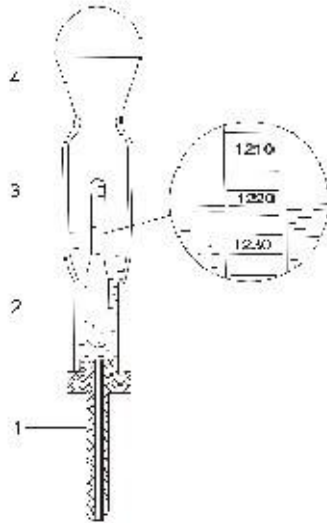

Fig. 12-15 Measuring the Density of Battery Electrolyte
(2) Check the level of electrolyte The level of electrolyte shall be 10mm to 15mm above any polar plate. If the level is too low, refill the distilled water other than electrolyte in time, so as to avoid overhigh density of electrolyte. Under the normal operating conditions, the reduction of its level is caused by natural evaporation and electrolyzation of water during the charging. If the insufficiency of electrolyte is caused by its dumping or leakage, the electrolyte with the equivalent density can be added in.
(3) Check the discharge of battery Check the discharge of battery by measuring the electrolyte density or voltage drop of single-cell battery (Fig.12-15). Commonly, its density reduced by 0.01g/cm^3 is equal to 6% discharge of battery. If the level of its discharge exceeds 25% in Winter and exceeds 50% in Summer, reuse the battery after recharging it.